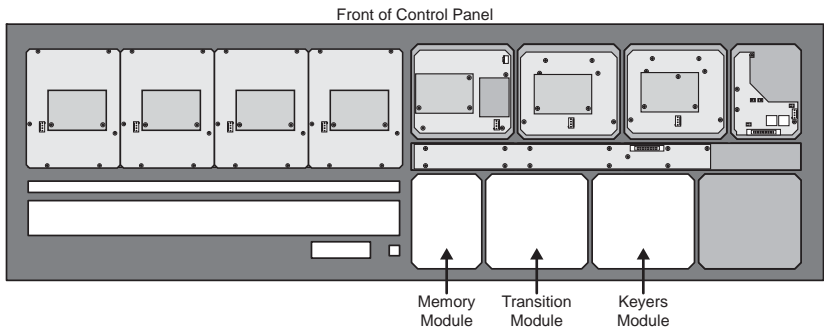

Figure 3 Module Locations — Vision 2X
1. Locate the Memory, Transition, and Keyers module slots in the control panel (**Figure 3**).